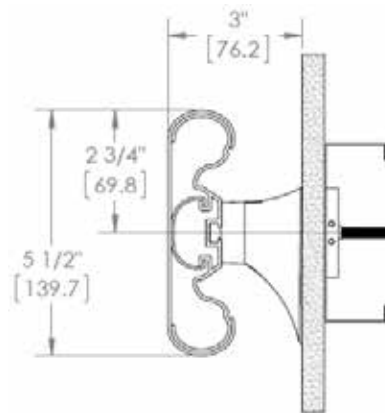

Figure 2
The factory recommends using back up channels at stud wall conditions (see Page 3, Figure 2).
STEP 1. Using the correct plans, layout guides and local code requirements layout and mark the location of the handrail on the wall at the appropriate height above the finished floor. Measure 2-3/4" down from the desired top of the handrail and mark this location at each end of the run (See Figure 2). Snap a chalk line, or use a laser level to mark the height of the standoff fasteners.